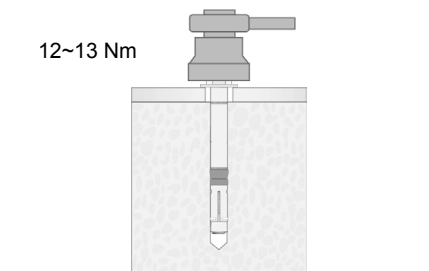

Fig. 3.18 - Nut torque
- Fix the M8 nut (a) across the 8mm flat gasket (c) and spring washer (b), with 12~13Nm torque. Repeat this step for the other bracket (Fig. 3.18).